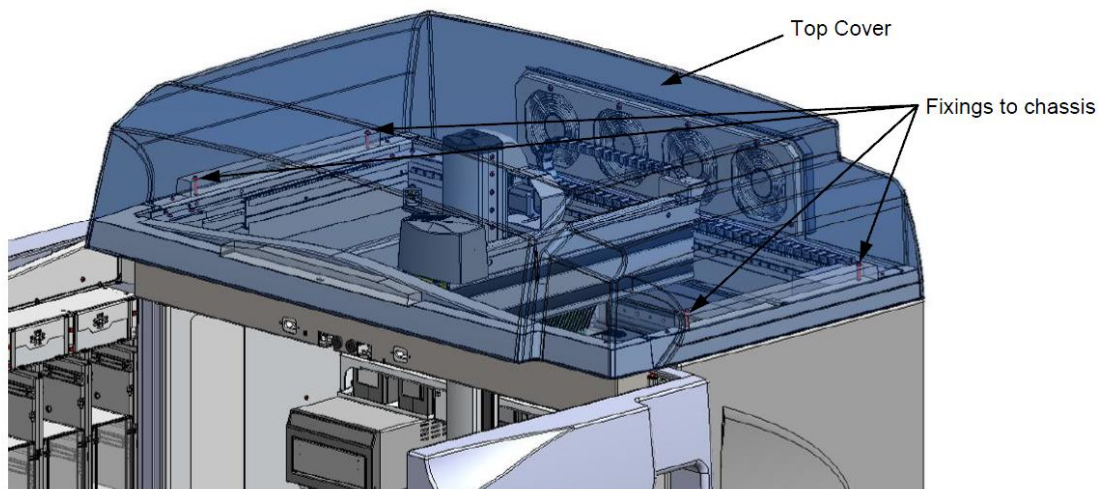

Figure F-3: Removing the Top Cover
2. Remove the top cover of the system (Figure F-3).